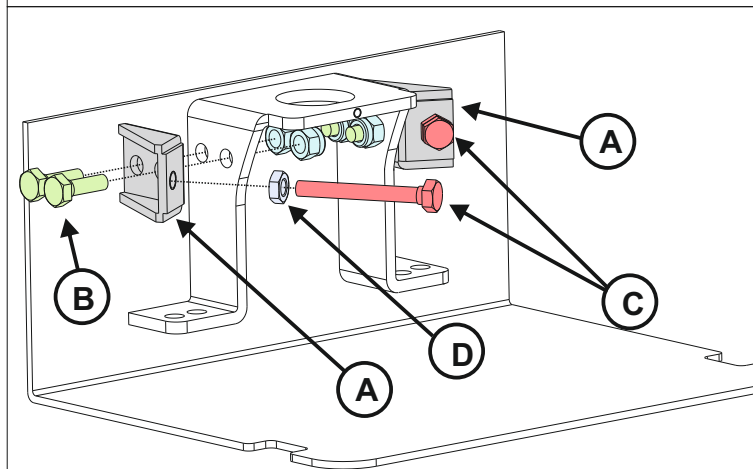

Fig. 3
3. Insert the two «stop screws» «C» into the special housings on the stop supports, using the bolts «D» as shown in (Fig. 3 and Fig. 4)